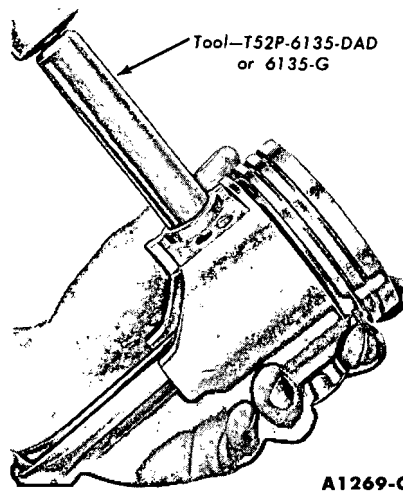

FIG. 61—Piston Pin Removal
2. Remove the piston rings. Remove the piston pin retainers. Drive the pin out of the piston and connecting rod (Fig. 61). Discard the retainers.